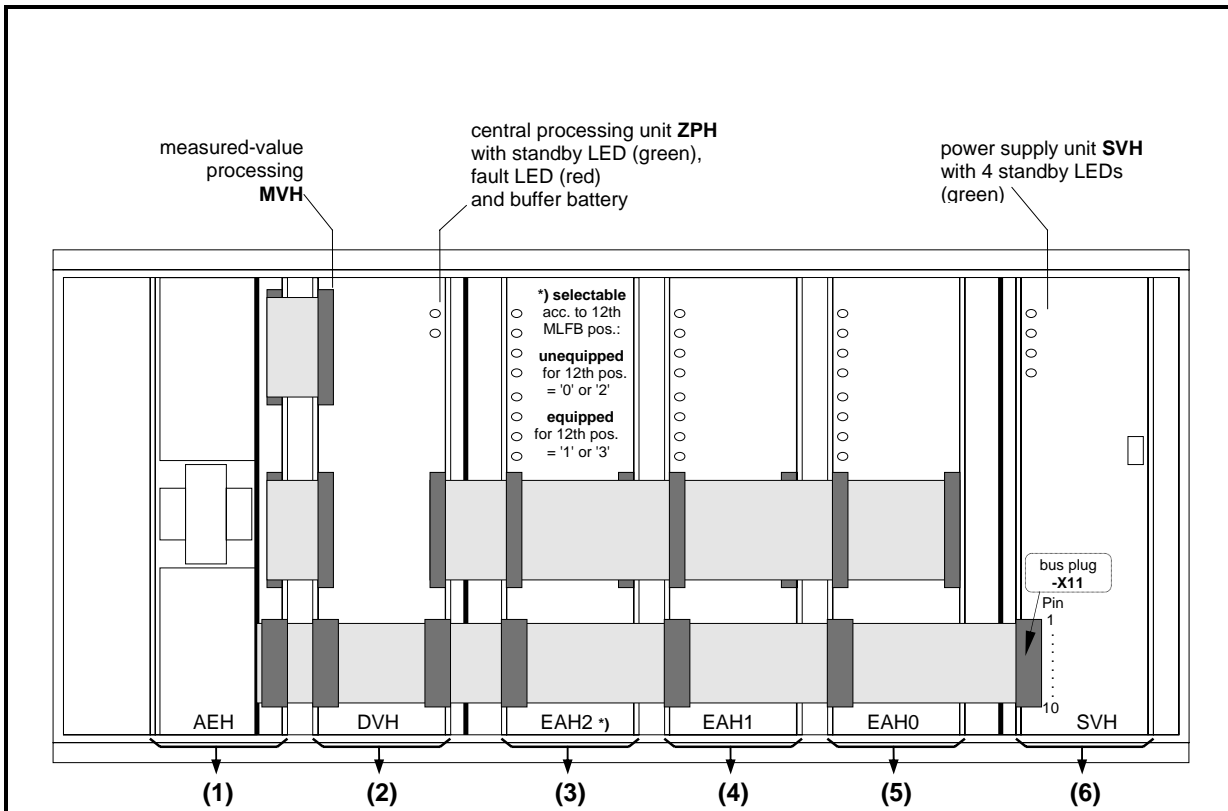

Figure 1: Front view of 7SA513 when front door is open (simplified),
- EAH extension (binary input/output modules; pos. (3), (4), (5) in figure 1): the MLFB code, which pertains to the ordered device, has been software-implemented by the producer and will appear in the display. The 12th MLFB position denotes the EAH extension (e.g. 2 EAH or. 3 EAH modules). Up to version V2.12 the actual number of extant EAH modules have not been verified by the software. In versions V2.2\*/V3.\*\* , the number of the plugged-in EAH modules are compared to the number, recorded in the implemented MLFB code. In case of deviation, the device will go into the monitor subroutine (malfunction of device).
Corrective measures: Number of EAH modules (i.e. excluding/including module EAH2 in pos. (3) as in figure 1) must correspond to the number shown in the implemented MLFB code. Before carrying out a firmware update, write down the MLFB code (address 0 or 0000). Check and, if necessary, modify the EAH configuration of the device.
21. Insert the DVH module into the housing; ensure that the module is firmly pushed in. Carefully re-connect the ribbon cables, which connect the DVH-module (see fig. 1, pos (2)), with the other modules. Be careful, that no terminal pins suffer injury (bending). Then re-connect the ribbon cables from the front panel; take care for correct polarity:
27.2 Remove the bus plug **-X11** from the power supply module **SVH** (see fig. 1).
27.3 Connect a digital-voltmeter to pin 2 (positive pole +5V) and pin 5 (negative pole -5V) of the plug connector X11 (SVH-module). Pin-location see fig. 1.
- 27.15 Replace the bus plug **-X11** to the plug connector X11 of the power supply module **SVH** (see fig. 1).